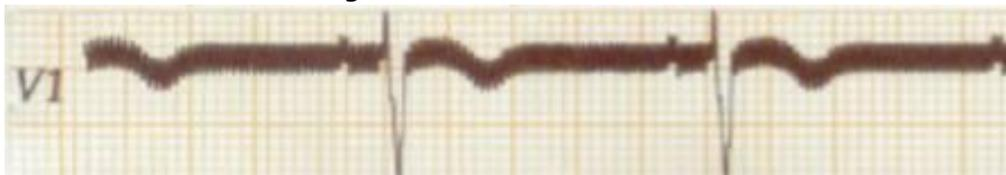

Figure 9-1
5) AC Interference (as shown in Figure 9-1)